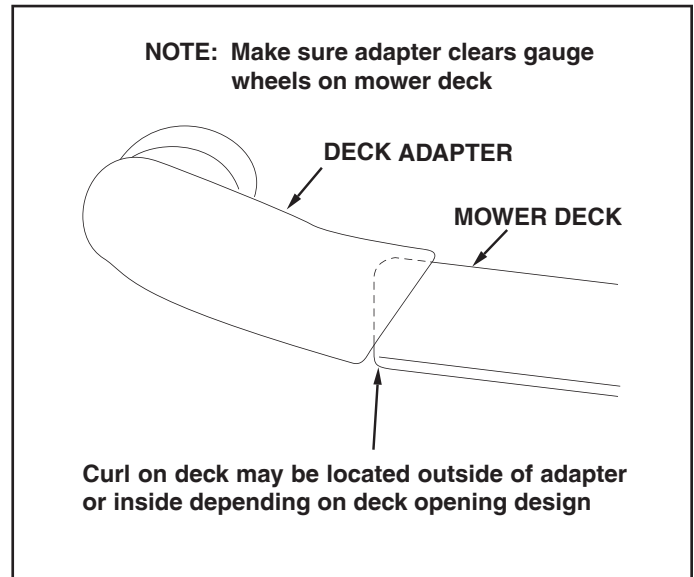

FIGURE 15
5. Position the adapter over the deck opening, and check for fit of cutout as shown in figure 15. Trim cutout, if necessary, to allow tilting of adapter, keeping the fit as close as possible for best vacuum suction.